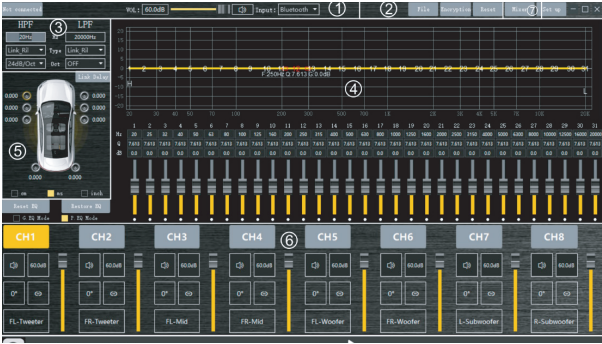
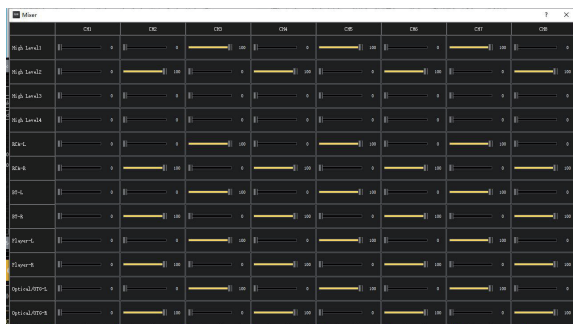

Figure 3.2.2
Figure 3.3.14
- ① as shown in figure 3.2.2 "2", shows the main menu and connection status.
- ② as shown in figure 3.2.2 "3", the high-pass and low-pass Settings of the divider.
- ③ as shown in figure 3.2.2, "4", area is output channel EQ setting.
- ④ as shown in figure 3.2.2, "5", shows the setting of delay space.
- ⑤ as shown in figure 3.2.2, "6", output channel configuration and common parameter adjustment area.
- ⑥ as shown in figure 3.2.2, "7", shows the setting of Mixer space.
In the online mode, in Figure 3.2.2 "1", click the appropriate input source, you can switch the audio input signal.
"6" area, click on the corresponding channel number in Figure 3.2.2 (CH1, CH2CH8), you can switch to the corresponding channel to adjust relevant parameters when changing the channel editing, where there are only 3.2.2 "3" zone (crossover and equalization parameters) will vary depending on the channel and change the parameter values.
Mixer settings: click "mixer" in the "7" area in Figure 3.2.2, then you can switch to (Figure3.3.14) the relevant parameter settings for the corresponding adjustment.